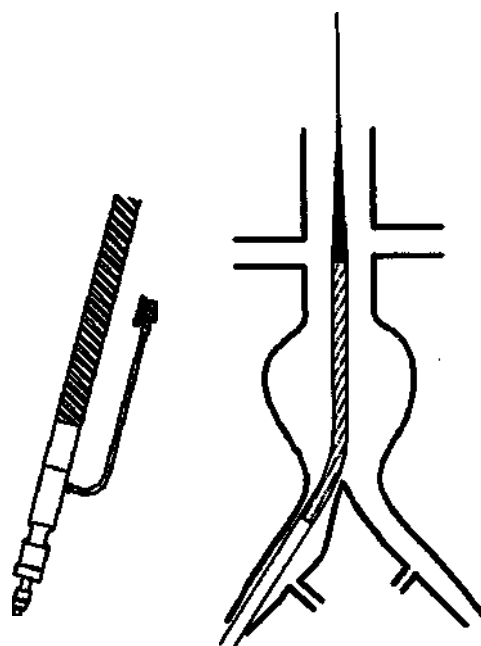

Fig. 5 Introduction of the delivery system
- ✧ Advance the delivery system to the abdominal aneurysm along the guidewire, and always maintain haemostasis valve in opposite side of the patient. (Fig. 5)